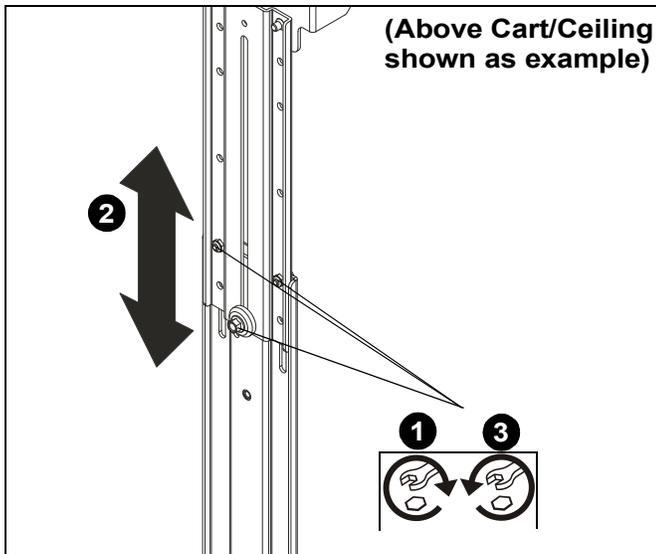

Figure 23
1. Loosen (or remove) hardware used to attach main bracket (B) to upright bracket (A). (See Figure 23)
2. Adjust shelf height as desired. (See Figure 23)
3. Tighten hardware used to attached main bracket (B) to upright bracket (A). (See Figure 23)